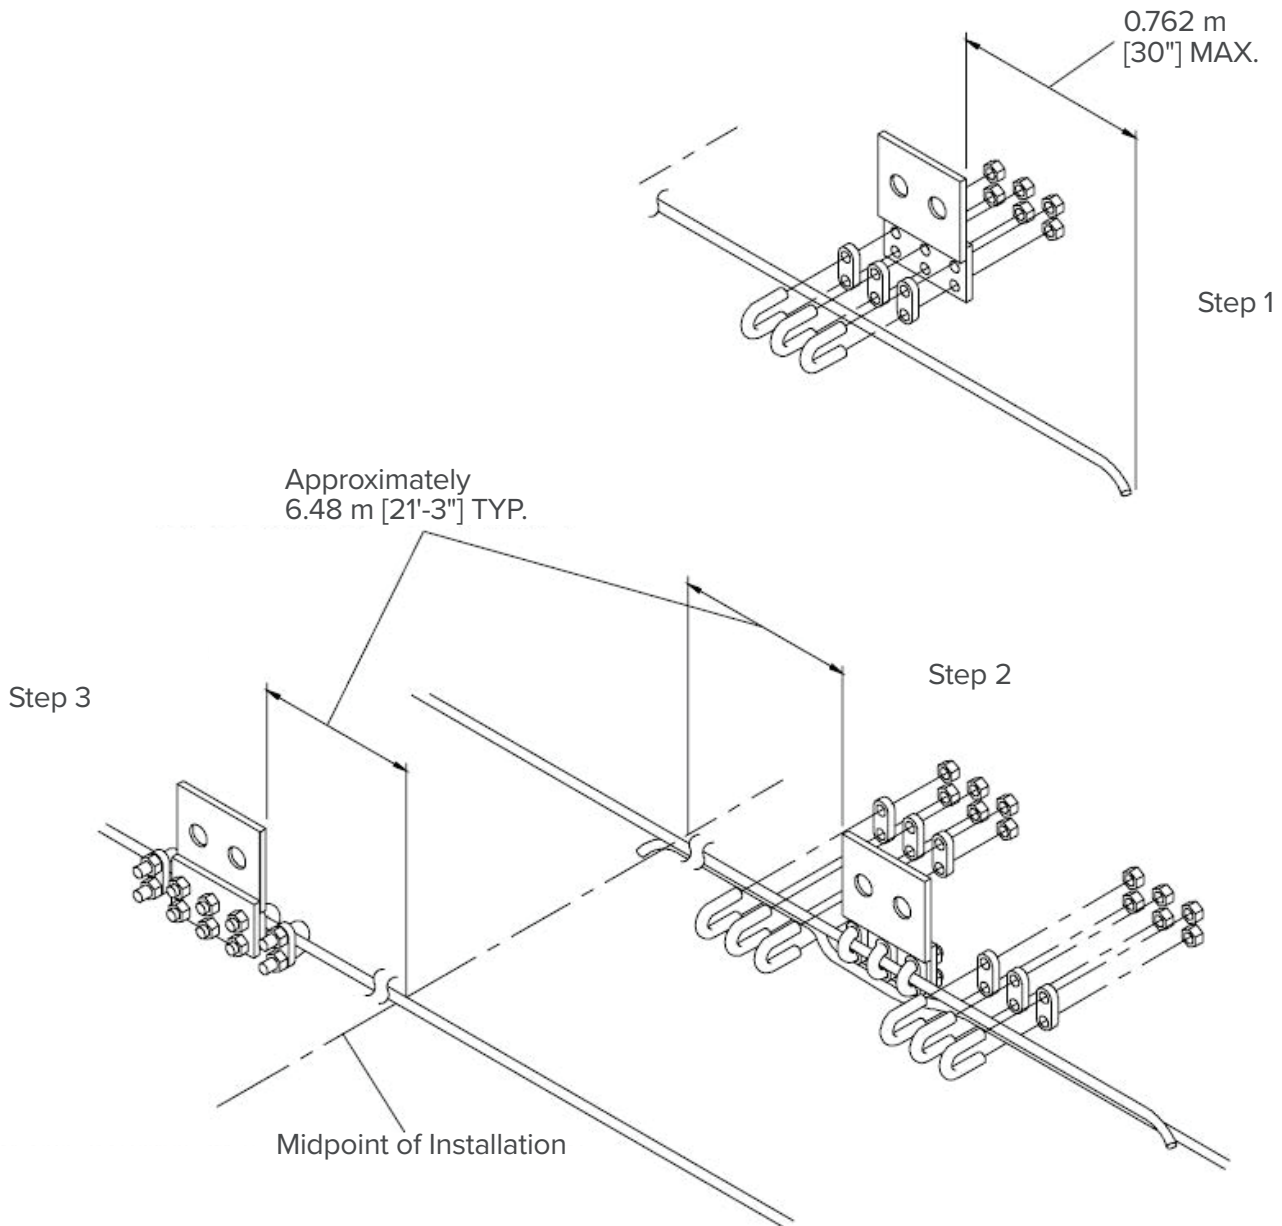

Figure 16
3. **Fasten the drive cable attachment brackets to the drive cable** (Figure 16). Remove the Drive Cable Attachment Brackets from the Hook and Pin Gate Assemblies. Attach one Cable Attachment Bracket 20" to 30" from end of the long cable returning from the tension pulley (step 1, Figure 16). While maintaining some tension on the loose ends of the wire rope, release the retainer at the end of the Capstan Wall Assembly. Take out as much slack as possible and splice the free ends together using the cable clips (Step 2, Figure 16).
5. **Loosely attach the other bracket an equal distance from assembly centerline** (Step 3, Figure 16).